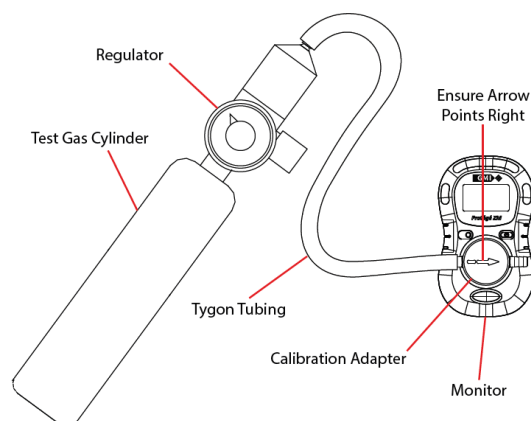

Figure 4-1: Bump Test - Calibration Adapter Attached
4. Attach the calibration adapter to the monitor and apply gas (see Figure 4-1: Bump Test - Calibration Adapter Attached).
NOTE: Ensure the calibration adapter is fitted onto the monitor with the arrow head pointing to the right (see Figure 4-1: Bump Test - Calibration Adapter Attached).